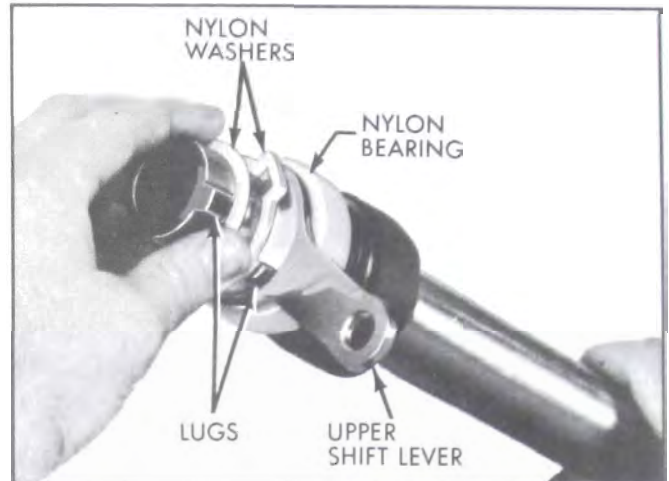

Figure 8-85—Removing Nylon Washers from Shift Control Shaft
18. Push the nylon bearing onto the control shaft far enough to clear the second lug and rotate the bearing so that it holds the spring in compression. See Figure 8-85.
19. Remove the two nylon washers and the upper shift lever by guiding them over the locating lugs on control shaft. See Figure 8-85.
3. Install the upper shift lever on the control shaft so that the flange on lever is toward lower end of shaft. See Figure 8-85.
4. Install a nylon washer onto the control shaft so that its locating tab engages the opening in the upper lever flange. See Figure 8-85.